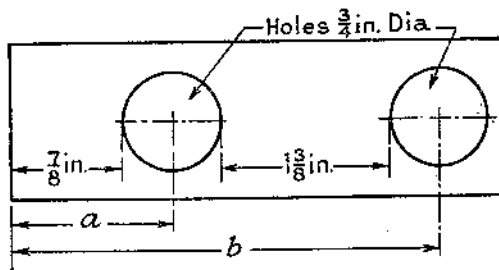

Fig. 4
(3) In fig. 4, calculate the dimensions  $a$  and  $b$ .